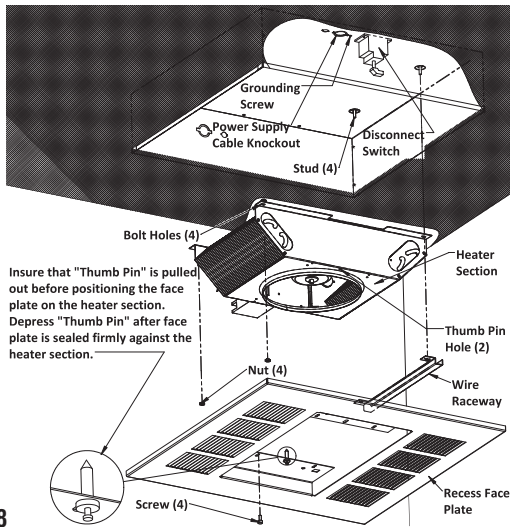

Figure 8
- Position the heater section over the studs in the recess mounting box (Figure 8).
- Push the heater section onto the studs and securely tighten two nuts (supplied) on the studs to secure the half of the heater section opposite the sleeved wires to the recess mounting box. Push the raceway onto the studs ensuring that the sleeved wires are in the raceway and securely tighten two nuts (supplied) on the studs to secure the raceway and the other half of the heater to the recess mounting box (Figure 8).
- Remove the recess face plate (Figure 8) from the carton containing the Recess Mounting Enclosure, Type REA.
- Install and securely tighten four screws (supplied) to secure the recess face plate to the heater section (Figure 8).